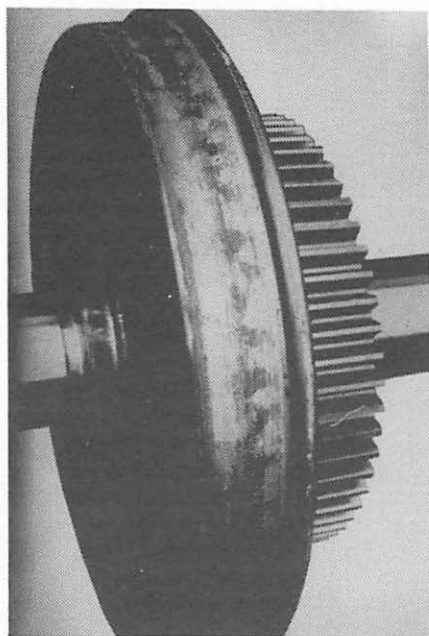

Fig. 2
1. Traction motor armature shaft torque to become excessive as locomotive speed increases (Fig. 1). One demonstration of this is shown on locomotive drive wheels where small discrete wheel slips are seen. (Fig. 2). This wheel shows 59 individual slip marks corresponding to the number of teeth on the adjacent drive gear.